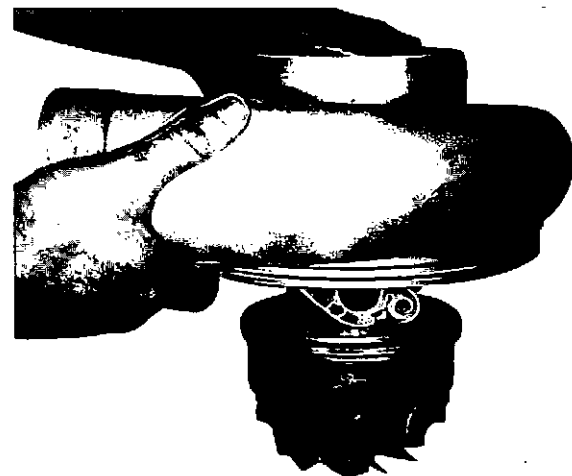
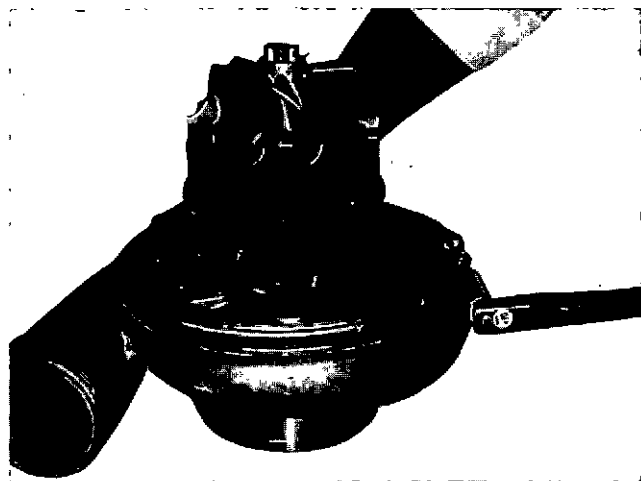

Fig. 5-37, (TA39). Installing the compressor housing
Fig. 5-38, (TA40). Torquing the V-band nut
13. Position the compressor housing to the center housing, Fig. 5-37. Align the marks, install and tighten the V-band coupling to 40/60 in-lb [4.5/6.8 N•m], Fig. 5-38.